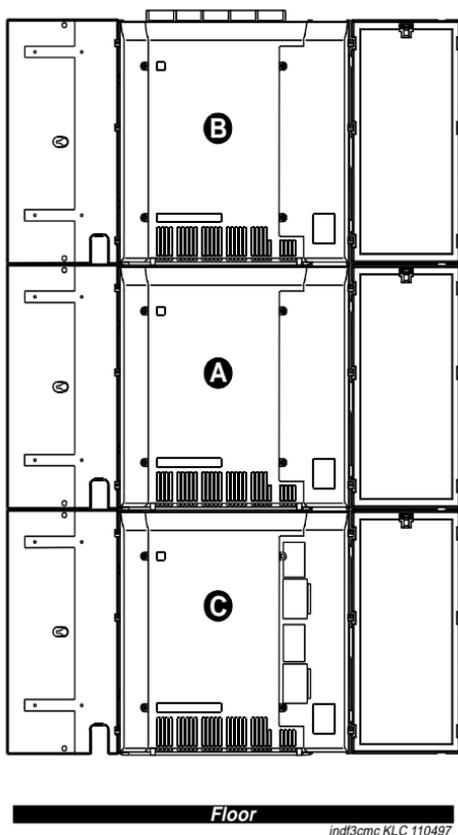

Figure 47. Typical Compact Modular Cabinet (G3csi model) Installation (Front)
Up to three Compact Modular Cabinets can be combined in a single installation. Port and service circuit packs fill all ten slots in the second and third cabinets. The first cabinet (A) installs in the middle position, the second cabinet (B) installs on the top, and the third cabinet (C) installs on the bottom. See Figure 47.